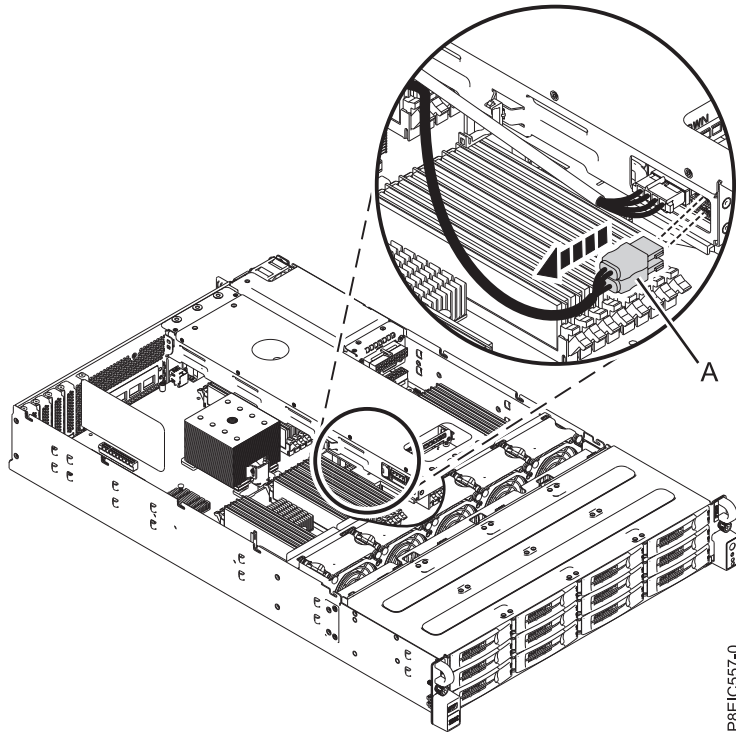

Figure 39. Disconnecting the drive signal cable from the rear drive tray assembly
3. Disconnect and remove the drive signal cable **(A)** from the rear drive tray assembly, as shown in Figure 39.